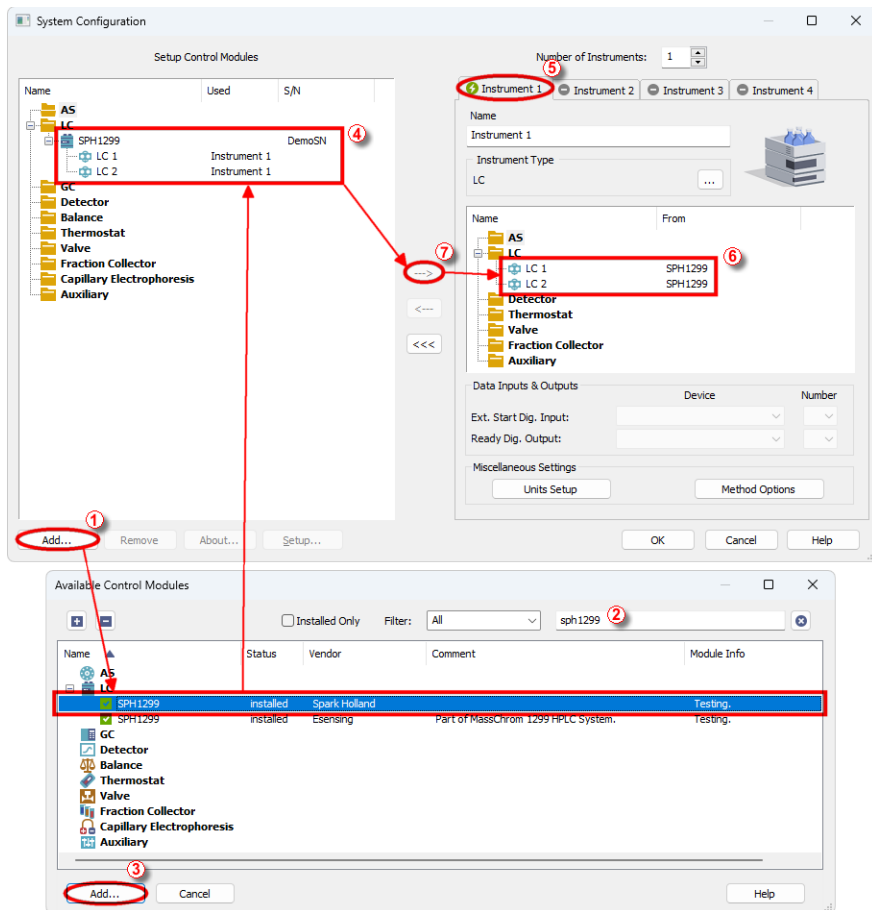

Fig. 2: System Configuration
- Press the **Add** button ① (see Fig. 2 on pg. 4.) to invoke the **Available Control Modules** dialog.
- You can specify the searching filter ② to simplify the finding of the driver.
- Select the **SPH1299** pump and press the **Add** ③ button.